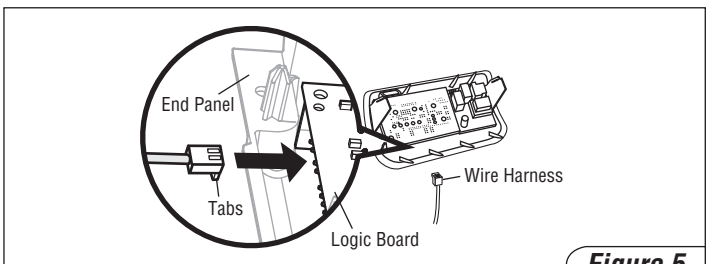

Figure 5
8. Reverse steps 3 through 7 to reassemble. When reconnecting the wire harness, be sure the tabs on the wire harness are facing the end panel, not the logic board (Figure 5).